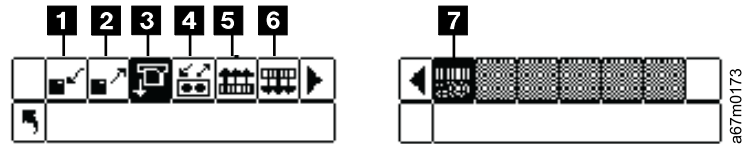

Figure 69. Command menu
- Import media (see **1** in Figure 69 on page 127)
- Export media (see **2** in Figure 69 on page 127)
- Dismount drives (see **3** in Figure 69 on page 127)
- Move media (see **4** in Figure 69 on page 127)
- Bulk Load media (see **5** in Figure 69 on page 127)
- Bulk Unload media (see **6** in Figure 69 on page 127)
- Set Sequential mode options (see **7** in Figure 69 on page 127)